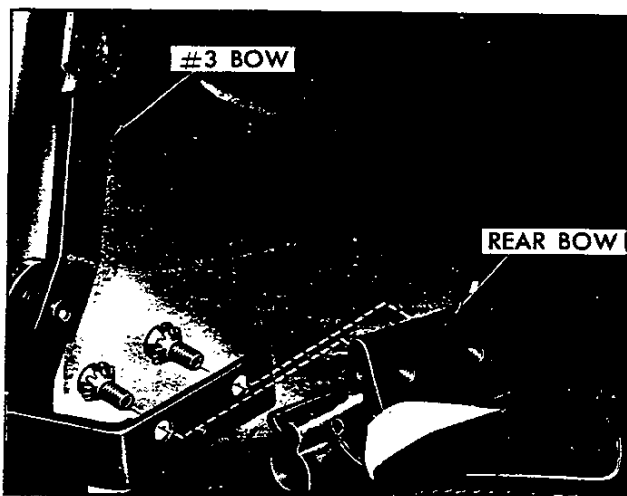

Fig. 66—Rear Bow Retaining Screws
8. Disconnect rear bow from top frame assembly. Two screws retain at each side. Figure 66.